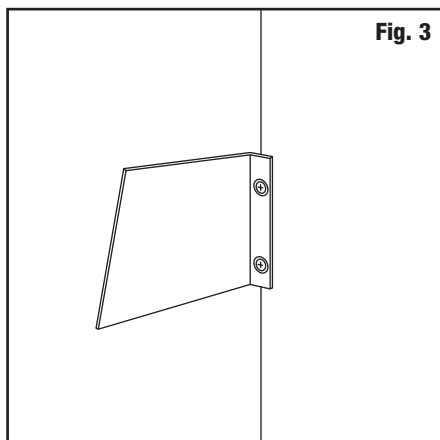

Fig. 3
6. Mount Bottom Bracket aligning bottom two holes on wall with holes in bracket and secure using washers and screws (Fig. 3).